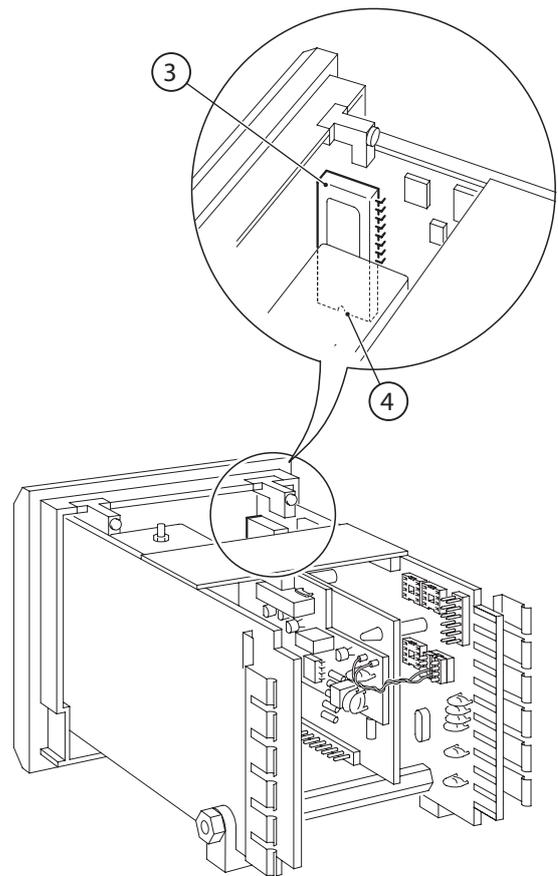

Figure 4 Replacing the EPROM – panel-mount transmitter
- 3 Referring to Figure 4:
- a Locate EPROM ③.
- c Using EPROM insertion tool, position replacement EPROM carefully in socket ensuring notches in EPROM and socket ④ are aligned and that EPROM pins enter the holes in the socket.